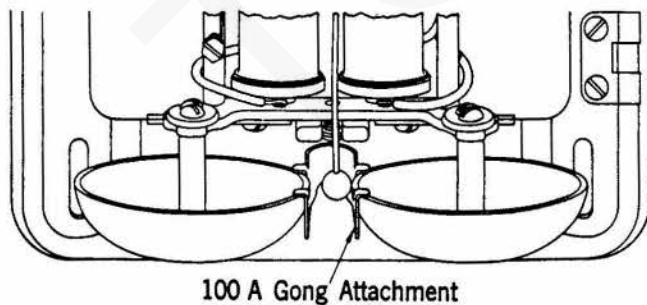

Fig. 8—100A Gong Attachment on Ringers of Types 6, 7, 8, 42, 48, and 52
4.04 Figs. 8, 9, and 10 show procedures and methods recommended for the installation of gong attachments on numbered-type ringers. The 100B gong attachment may be used in place of the 100A gong and installed in a similar manner except for type shown in Fig. 8 where the open end shall be toward the base of the subscriber set.